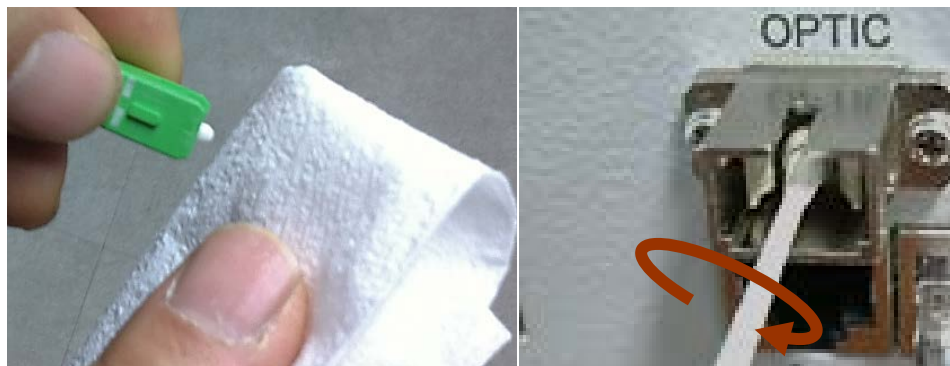

Figure 3-5 Optic Connector Cleaning (left) and Optic Port Cleaning (right)
- We recommend cleaning optic connector using a dry optical cleaning swab or tissue in a dry environment as needed. We recommend cleaning the optic connectors only if the expected optic loss is higher than the loss reported in the Web-GUI by 1.5dB_o. (Figure 3-5)